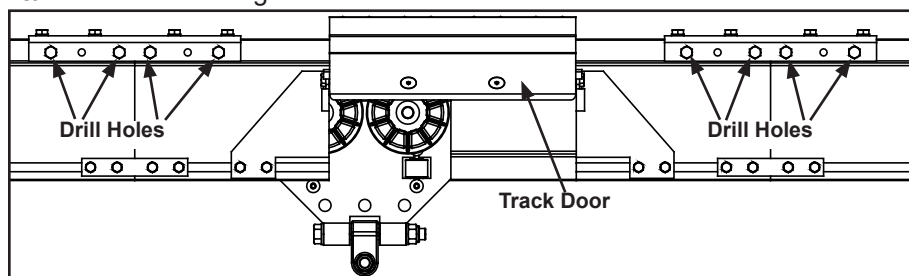

Figure 3-128
- Step 1. Use top rail mounting bracket as template to mark rail and drill four (4) holes on each end of access gate assembly, using 13/32 in (11 mm) drill bit. Do not attempt to drill holes in-line. See Figure 3-128.
- Step 2. Install four (4) M10 x 100 mm HHCS with M10 nylock nuts on each end of access gate. **Tighten until bolts are snug + ¼ turn.** Do not over tighten.